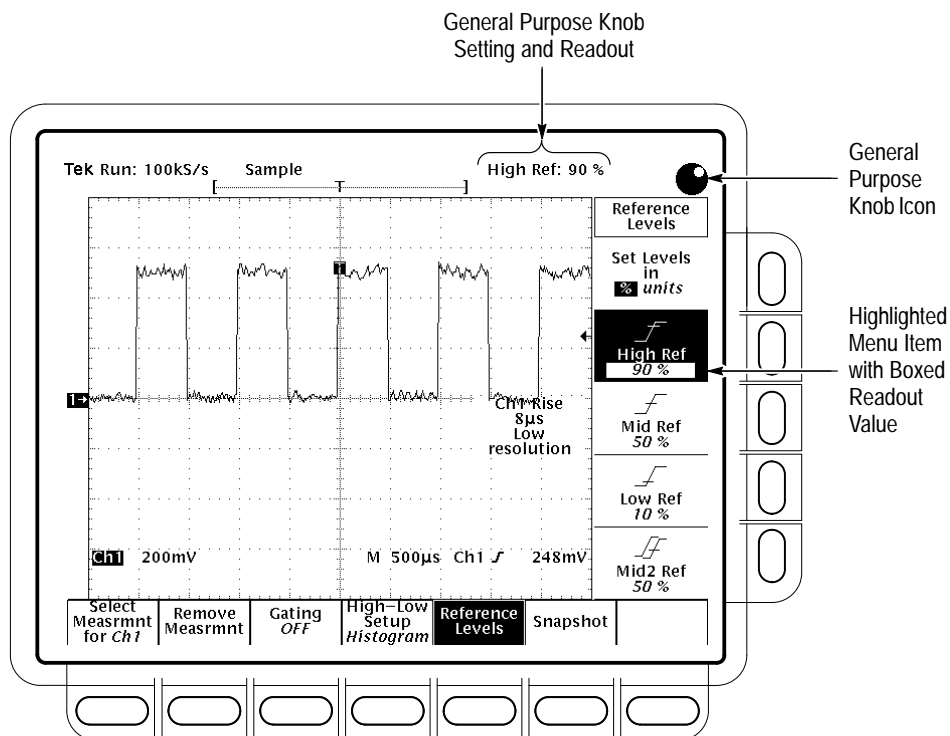

Figure 2-16: General Purpose Knob Indicators
**The General Purpose Knob.** The general purpose knob, the large knob, is now set to adjust the high reference level (Figure 2-16.)